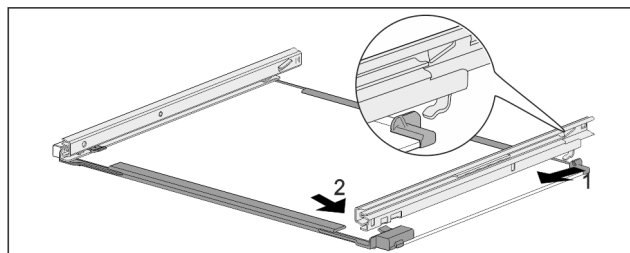

Fig. 181 Glass shelf with rails
- Hook in rail at the back. Fig. 181 (1)
- Hook in rail at the front. Fig. 181 (2)